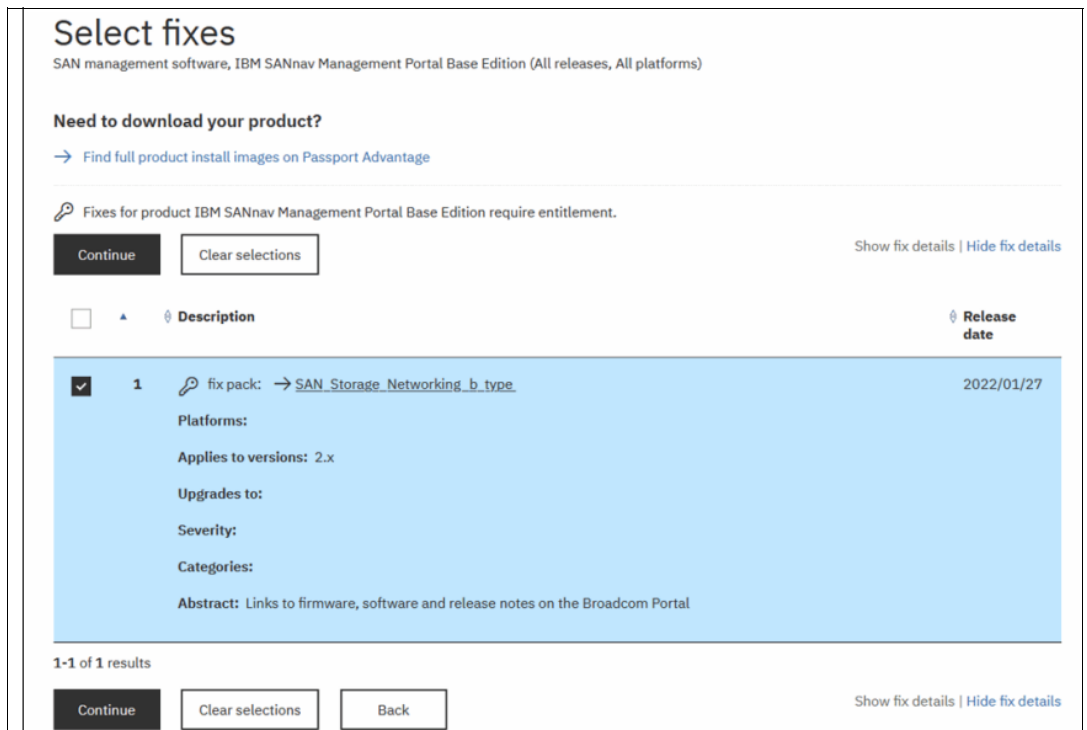

Figure 9-8 Select fixes
5. Under Select fixes, choose the **SAN Storage Networking b type** fix pack. See Figure 9-8.